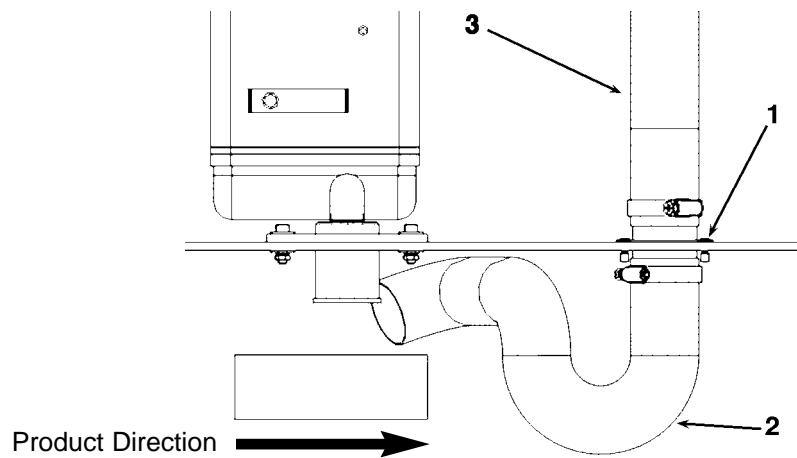

Figure 10
1. Install connector (1, Figure 10) in close proximity of coding area. It can mount through a 2 inch (5.08cm) hole in a guarding panel or directly to any solid structure in the area. Secure with 3/16 inch (.476cm) rivets or screws.
2. Slide flexible aluminum hose (2, Figure 10) over connector and secure with a hose clamp. Bend the aluminum hose to within one hose diameter of the fume source (downstream of the product flow) without interfering with the product flow. Cut the hose to length if necessary.
3. Slide rubber hose (3, Figure 10) over connector and secure with a hose clamp. Secure the other end to the inlet of the evacuation unit. A reducer will be required if installed to a connection without a 2-inch (5.08cm) OD. Cut the hose to length if necessary.